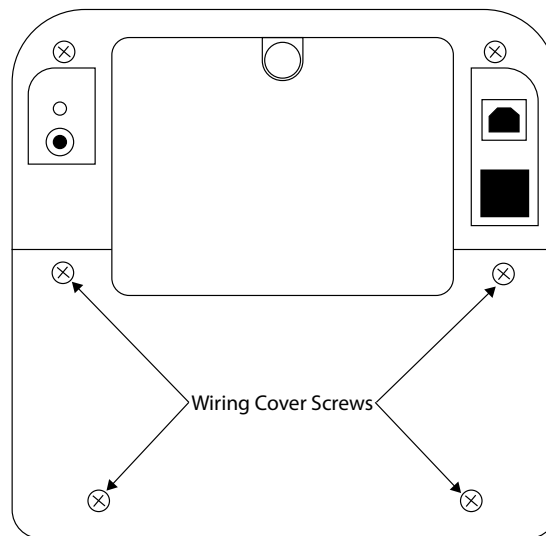

Figure 2. Wiring Cover Screw Locations
4. Unscrew and remove the wiring cover on the back of the indicator (see Figure 2).